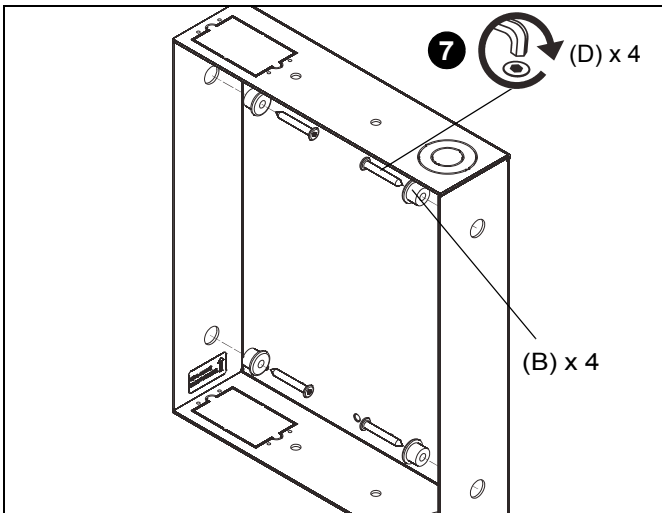

Figure 4
7. Attach the TA502 (A) using four M7 x 50mm Allen head connector screws (D) and four spacers (B) into pilot holes using an M4 Allen head drill bit (F). (See Figure 4)